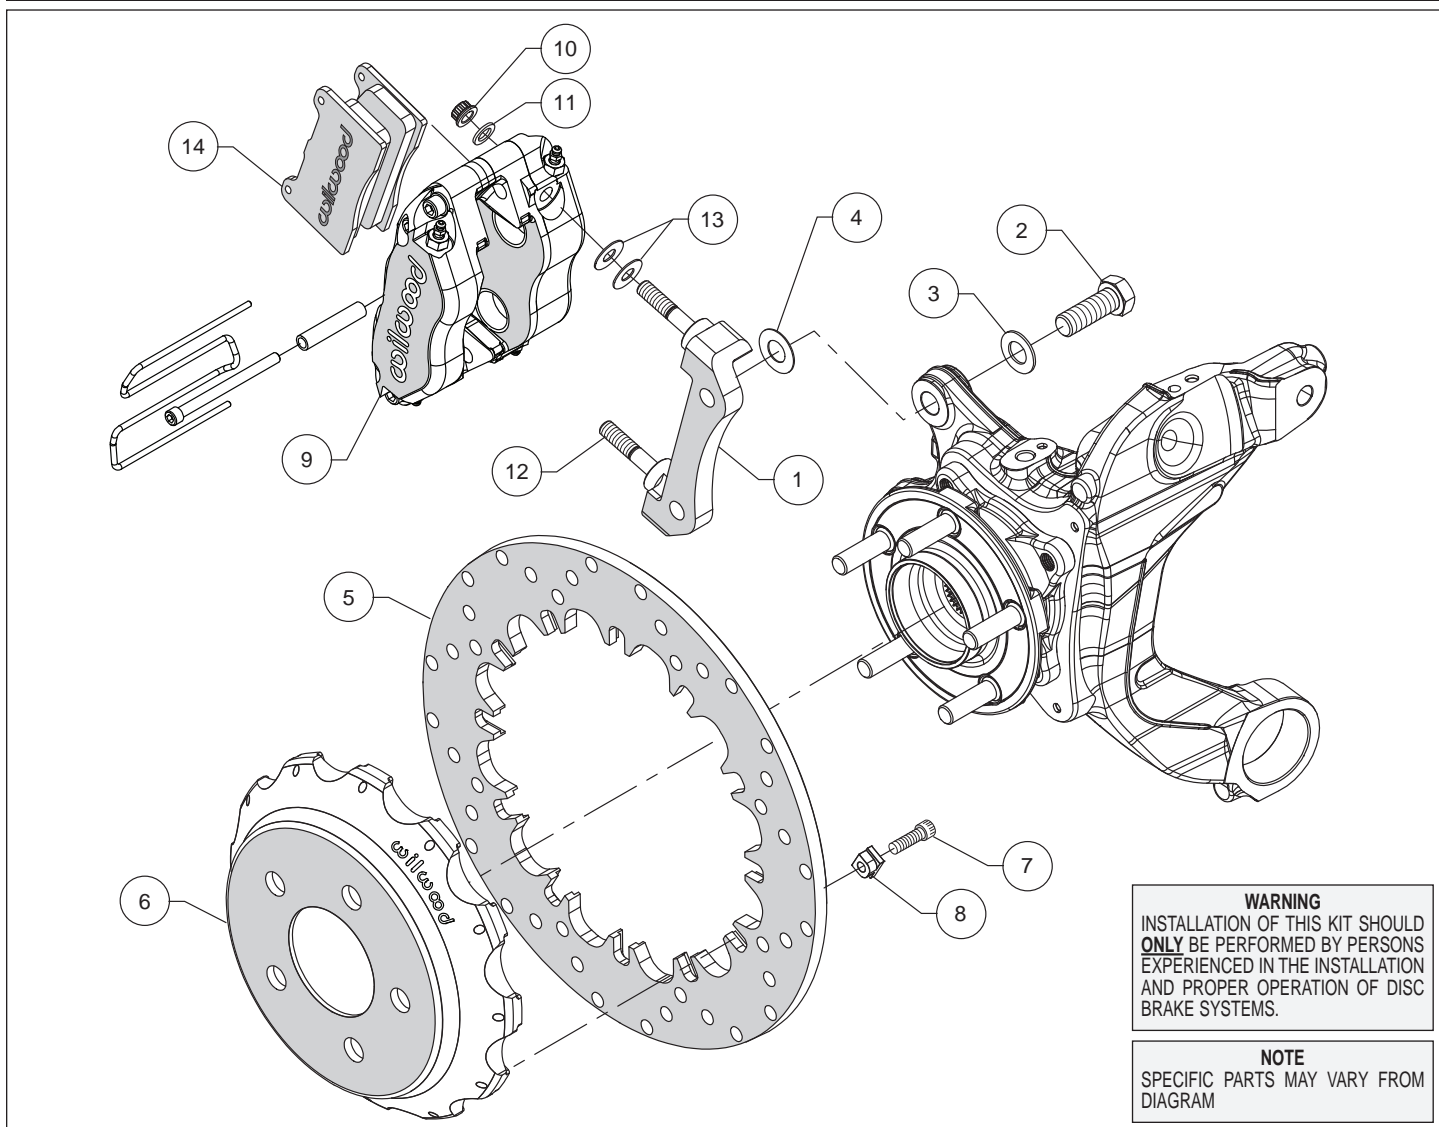
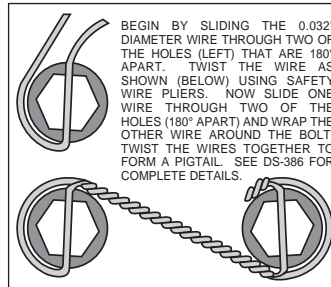

Figure 1. Typical Installation Configuration
Figure 3. Safety Wire Diagram
**Assembly Instructions** (numbers in parenthesis refer to the parts list and Figure 1 on the preceding pages):
- The caliper mount bracket (1) should initially be installed with clean, dry threads on the mounting bolts. Orient the bracket, as shown in Figure 1 and Photo 1, and install using bolts (2) and washers (3). Initially place one .033" thick shim (4) on each bolt between the bracket and upright, Figure 1. Temporarily tighten the mounting bolts. **NOTE:** *The bracket must fit squarely against the mount bosses on the upright.* Inspect for interference from casting irregularities, machining ridges, burrs, etc. Later, after the caliper alignment has been checked, the mount bolts will be secured using red *Loctite*® 271.
- Orient the rotor (5) and the hat (6) as shown in Figure 1 and Photo 2. Attach rotor to hat using bolts (7) and t-nuts (8). Using an alternating sequence, apply red *Loctite*® 271 to the threads, and torque to 120 **in-lbs**. The bolts must be safety wired using standard 0.032 inch diameter stainless steel safety wire as shown in Figure 3. Refer to Wilwood's data sheet DS-386 (available at [www.wilwood.com/Pdf/DataSheets/ds386.pdf](http://www.wilwood.com/Pdf/DataSheets/ds386.pdf)) for complete safety wire installation instructions.
- Lubricate the caliper mounting studs (12) with lightweight oil. Initially place two .035" thick shims (13) on each stud as shown in Figure 1 and Photo 4. Mount the caliper (9) onto the bracket (1) using lock nuts (10) and washers (11), Figure 1. Temporarily tighten the lock nuts and view the rotor through the top opening of the caliper. The rotor should be centered in the caliper, Photo 5. If not, adjust by adding or subtracting shims (4) between the bracket and the mounting bosses. Once the caliper alignment is correct, remove the bracket mounting bolts one at a time, apply red *Loctite*® 271 to the threads, and torque to 77 ft-lbs.
- Insert the brake pads (14) into the caliper with the friction material facing the rotor (5), as shown in Figure 1 and Photo 6. Check that the top of the brake pad is flush with the outside diameter of the rotor, Photo 7. If not, adjust by adding or subtracting shims (13) between the caliper and the bracket. After the caliper pad height is set, torque the caliper lock nuts (10) to 30 ft-lb. Secure the pads in place using the pad clip retainer as well as the center bridge pad retainer tube, bolt, and locknut, Photo 8. The locknut should be snug without play in the bolt or tube. Be cautious not to over tighten.